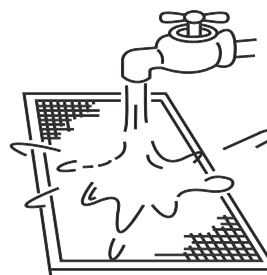

Figure 13.4
- b. The air intake side should face down when using clean water. (Refer to Figure 13.4)